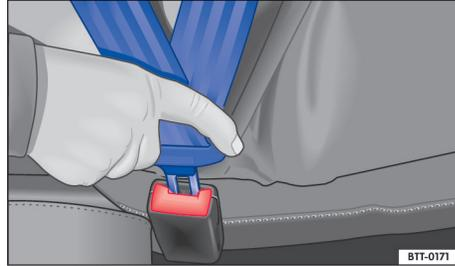

Fig. 27 Inserting the seat belt latch plate into the buckle.
- Insert the latch plate securely into the buckle of the respective seat → Fig. 27.